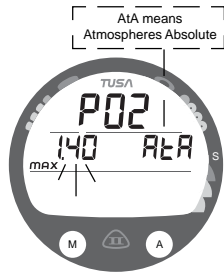

Fig. 24 - SET PO2 AL
**Set PO2 Alarm**, information includes (Fig. 24):